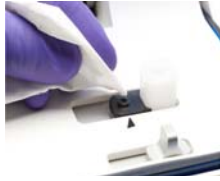

Figure 3-3: Placing a drop holder on the BLItz system. The drop holder will be held intact on the BLItz system by a magnet.
- Place a drop holder in its slot on the BLItz system (Figure 3-3). Store the second drop holder provided with the system for later use.